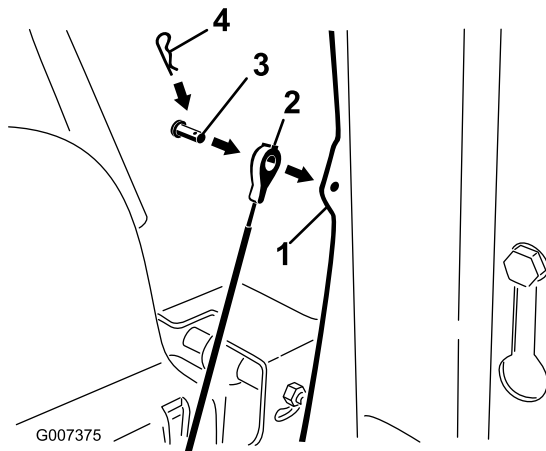

Figure 4
3. Secure the loose end of the seat cable to the frame as shown using the clevis and hair pins (Figure 4).